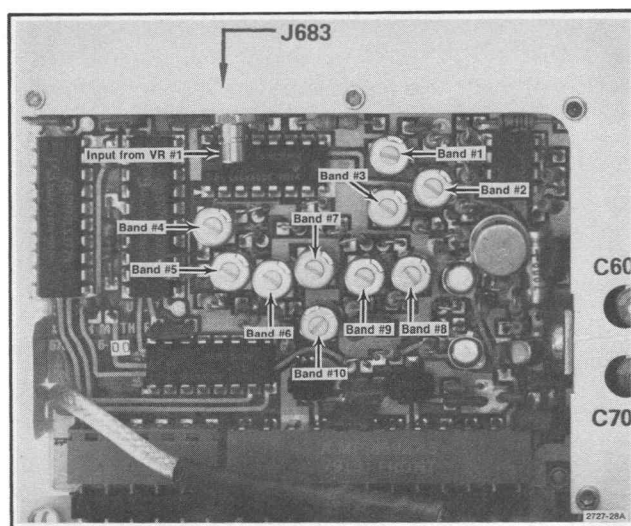

Fig. 3-49. Band leveling adjustments and gain diodes (when installed) on VR #2 module.
f. Adjust band 2 Gain, R3034 (Fig. 3-49), for a full screen (-20 dBm) display.
i. Adjust band 3 Gain, R3030 (Fig. 3-49), for a full screen display.
j. Repeat the above procedure for each coaxial band (1—5) and set the gain of each with the appropriate adjustment (see Fig. 3-49). If the range of any adjustment is insufficient, add the appropriate diode (see schematics and Fig. 3-49) to obtain 10 dB more range. Adding the diode increases gain.
b. With -58 dBm input level applied, adjust band 6 Gain Leveling, R3032 (Fig. 3-49), for full screen display.
c. Change the FREQUENCY RANGE and input signal level as listed in Table 3-10. Adjust the appropriate Band Gain adjustments (Fig. 3-49) for full screen display.